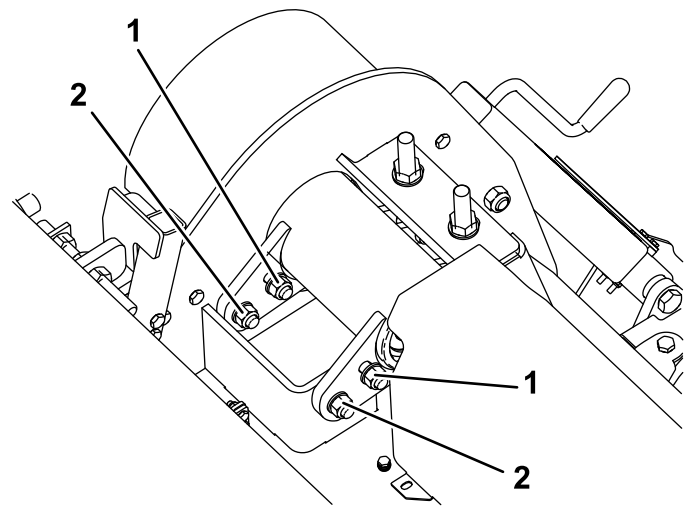

Figure 34
Note: If the tension is correct, install the belt cover (Figure 34).
3. If the tension is not correct, loosen the locknuts under the plate (Figure 34).
4. Loosen the bolts in the slots (Figure 34).
7. Tighten the lower locknuts under the plate (Figure 34).